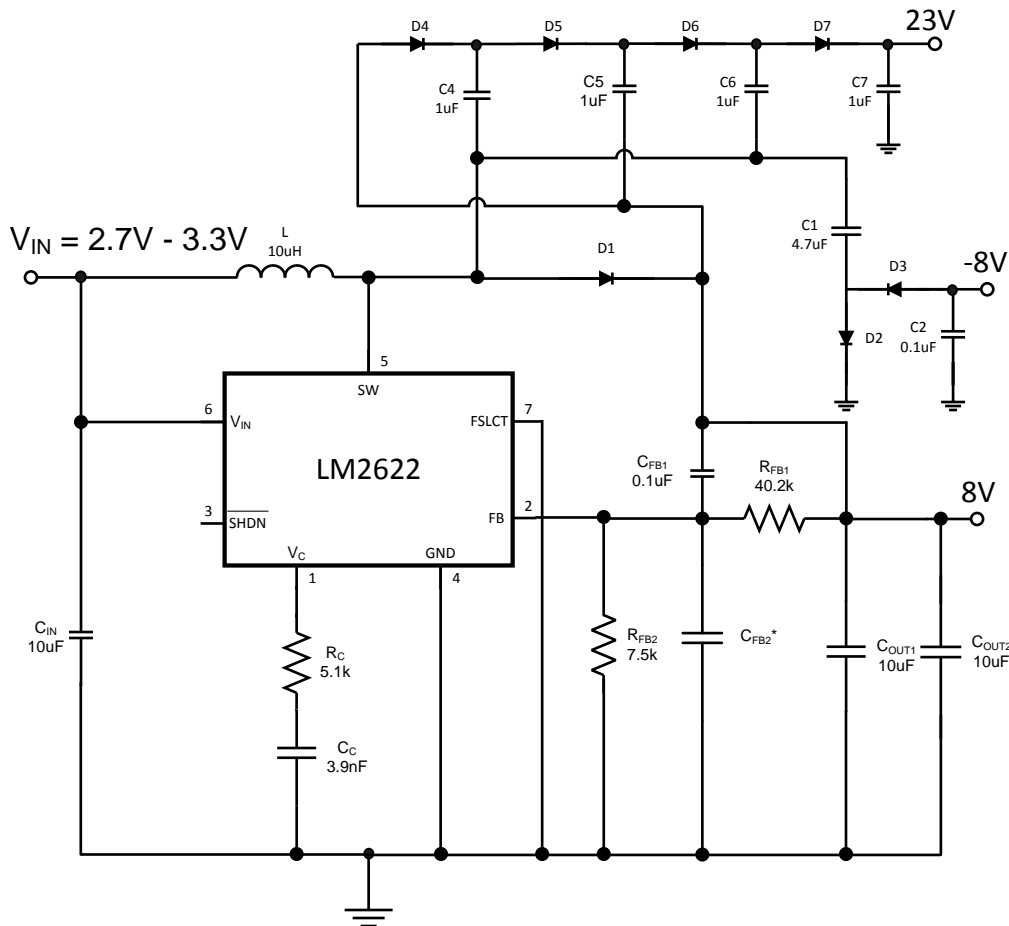

Figure 19. Triple Output TFT Bias (600 kHz operation)
The circuit in Figure 19 shows how the LM2622 can be configured to provide outputs of 8V, -8V, and 23V, convenient for biasing TFT displays. The 8V output is regulated, while the -8V and 23V outputs are unregulated.
**Table 1. Components For Circuits in Figure 19**